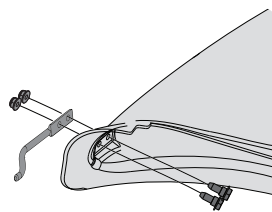

Figure 15
1. From the inside of the boot, put the two hex head screws (738-1225) through the holes at the bottom front of the boot. See Figure 15.
2. Put the mounting rod (747-06309) in place over the hex head screws. Make sure the tip of the rod is facing out from the boot. See Figure 15.
3. Begin threading the flange lock nuts (712-04064) onto the hex head screws. See Figure 15.